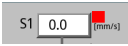

Fig. 3 (internet connection)
- connect the Ethernet cable to the Internet, WAN socket (Figure 3),